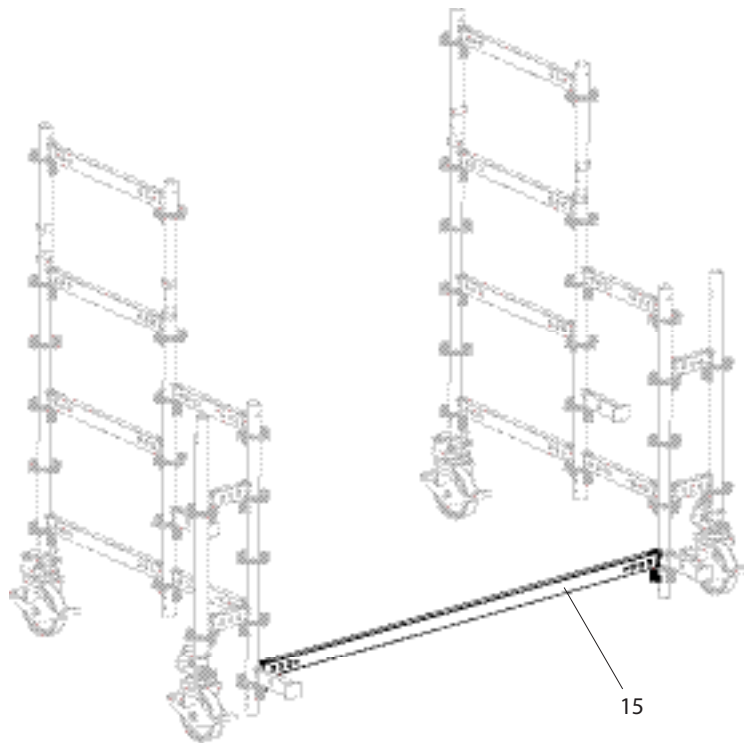

Fig. A2.04
1. Erect the first frame and secure it to prevent it from falling over with Horizontal Ledger UH-2 200 (15).
2. Erect the second frame and connect it to the horizontal ledger. (Fig. A2.04)